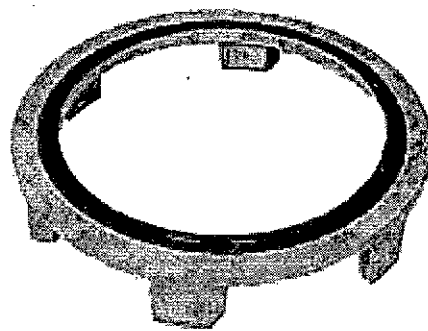

Figure 6-49
4. Inspect the bracket or adapter for stripped threads, cracks, and burred or rough mating surfaces. (Figure 6-49 and 6-50.)